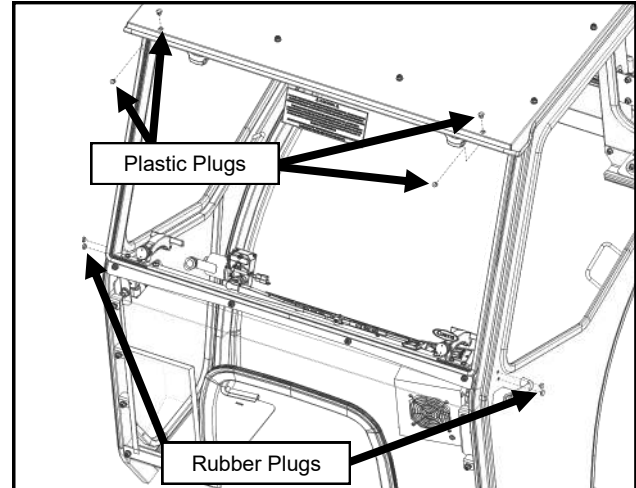

Fig. 26.1 (Install Plugs)
- 26.1** If installing accessories, please do so now. If not, use the supplied plugs to fill any exposed holes. See Figure 26.1.